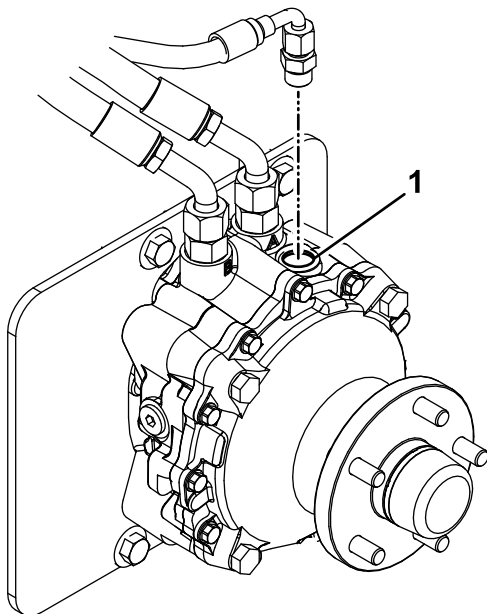

Figure 73
9. Remove the fill-port plug on the top of each wheel motor (Figure 73).